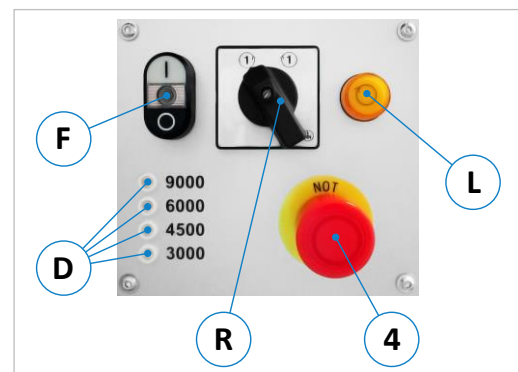

Figure 13: Control panel
After switching on the main switch (1), the speed set according to the V-belt position is indicated via the respective signal lamp (D), see ⇒ Figure 13. The speed setting is made according to chapter ⇒ 12.
In case of danger or malfunctions during operation, the machine can be stopped quickly and reliably by pressing the emergency stop button (4) on the control panel (see ⇒ Figure 13).
- With the spindle running, first press “○” on the switch (F) to switch of the spindle (see ⇒ Figure 13). Then wait approx. 15 → The motor brake opens automatically.